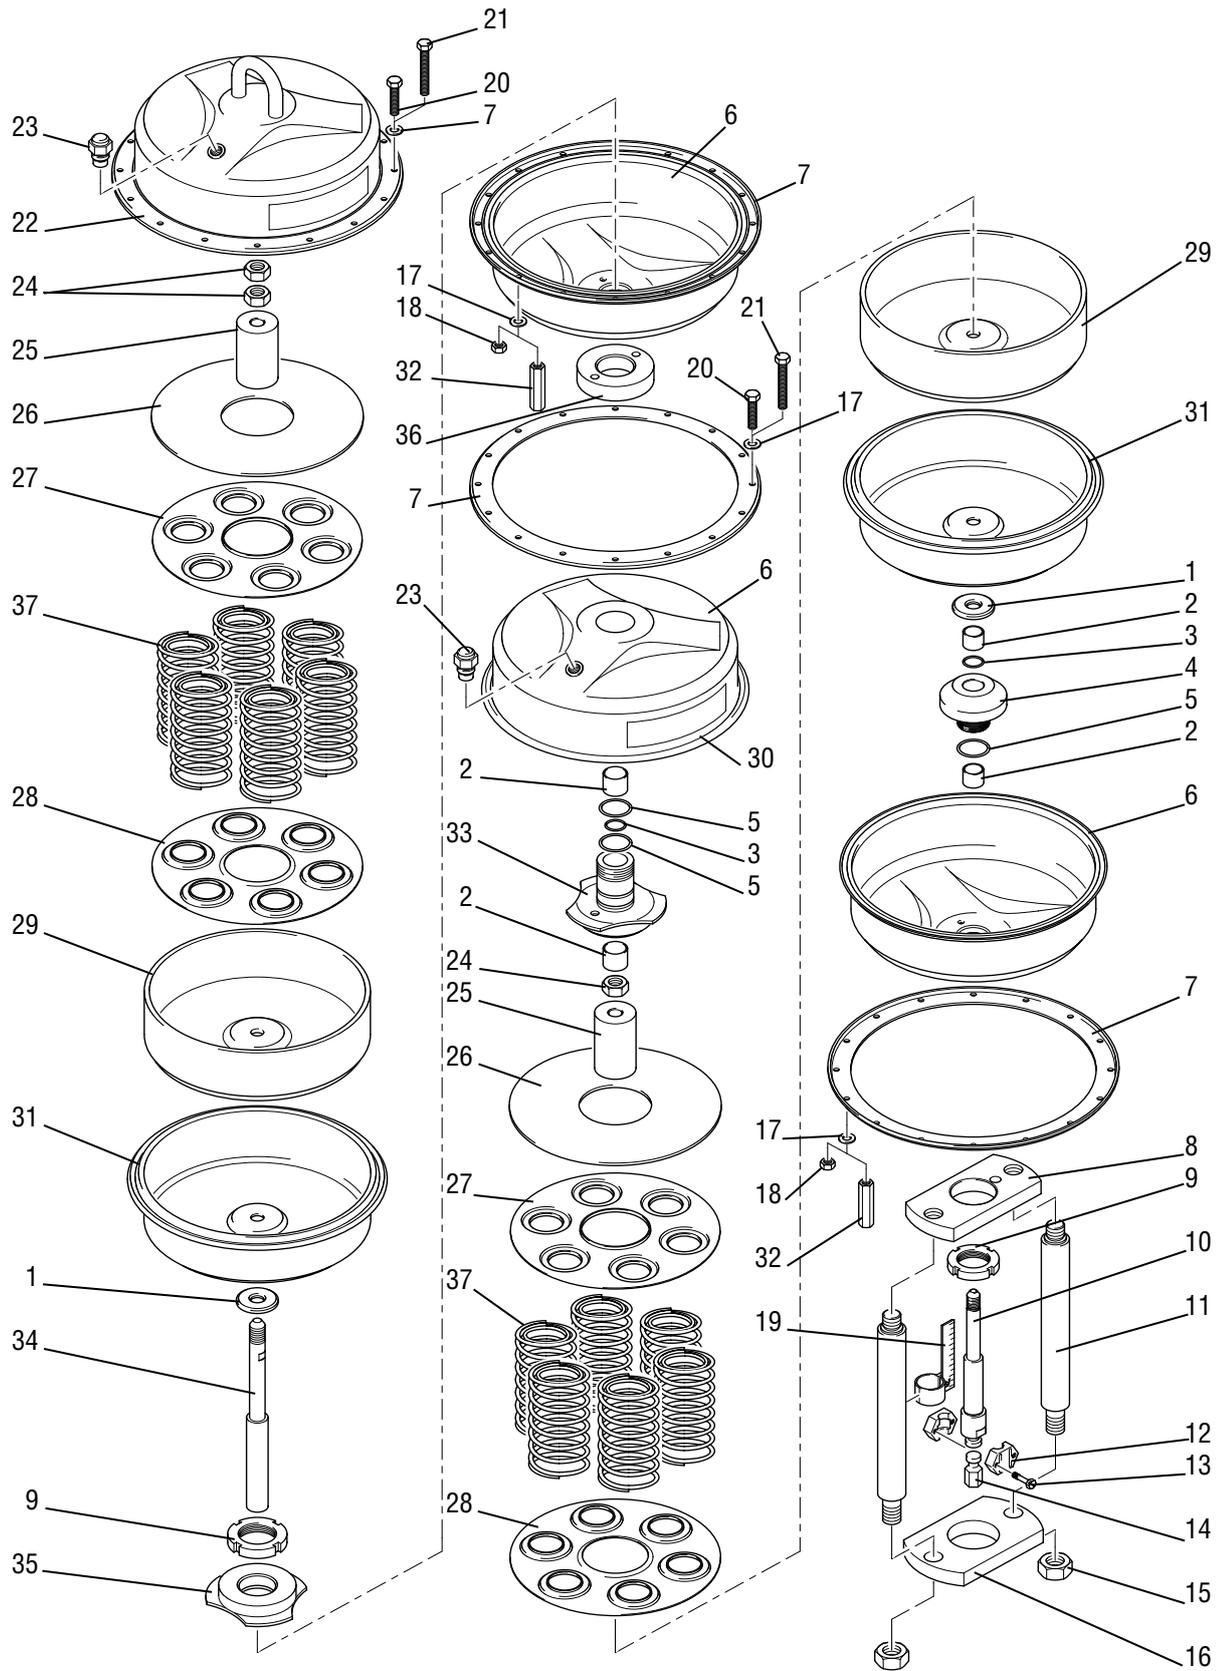

Fig. 1: Series 5 On-Off Actuator, Air-to-Open
- 5.1 Examine gaskets for leaks and if necessary re-tighten bolts (see Fig. 1).
(refer to Fig. 1)
(refer Fig. 1)
(refer to fig. 1)